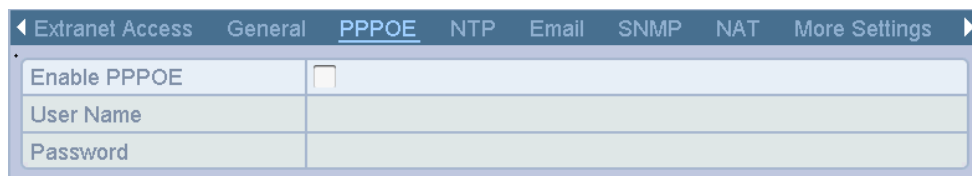

Figure 9. 2 PPPoE Settings Interface
2. Select the **PPPoE** tab to enter the PPPoE Settings interface, as shown in Figure 9. 22.